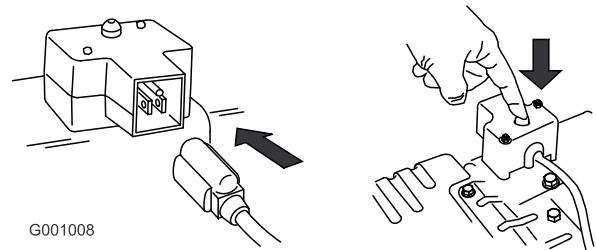

Figure 26
7. Start the snowthrower using the recoil starter or the electric starter (Figure 26).